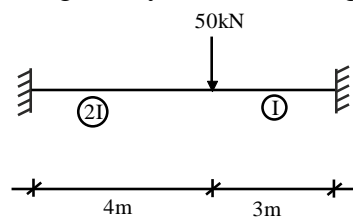

Fig. 10
12. Analyse the fixed beam shown in fig. 10 by column analogy method. Draw BMD. 13